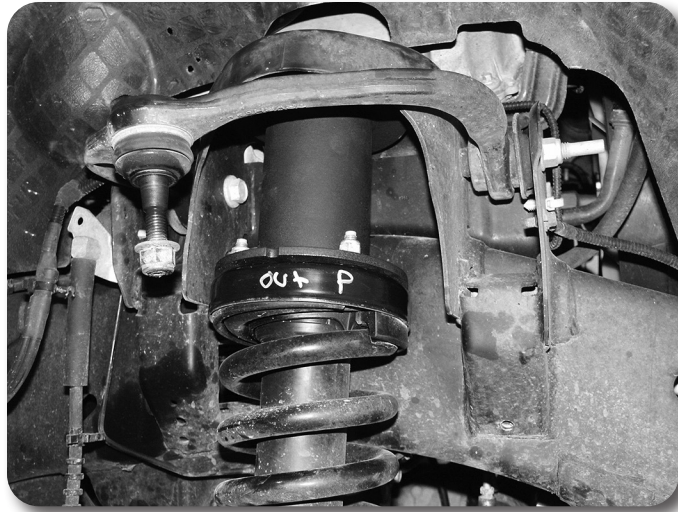

Figure 15
29. Install the strut and spacer assembly into the vehicle. Attach to upper mount with new 7/16" nuts and washers. Leave hardware loose at this time Figure 15.